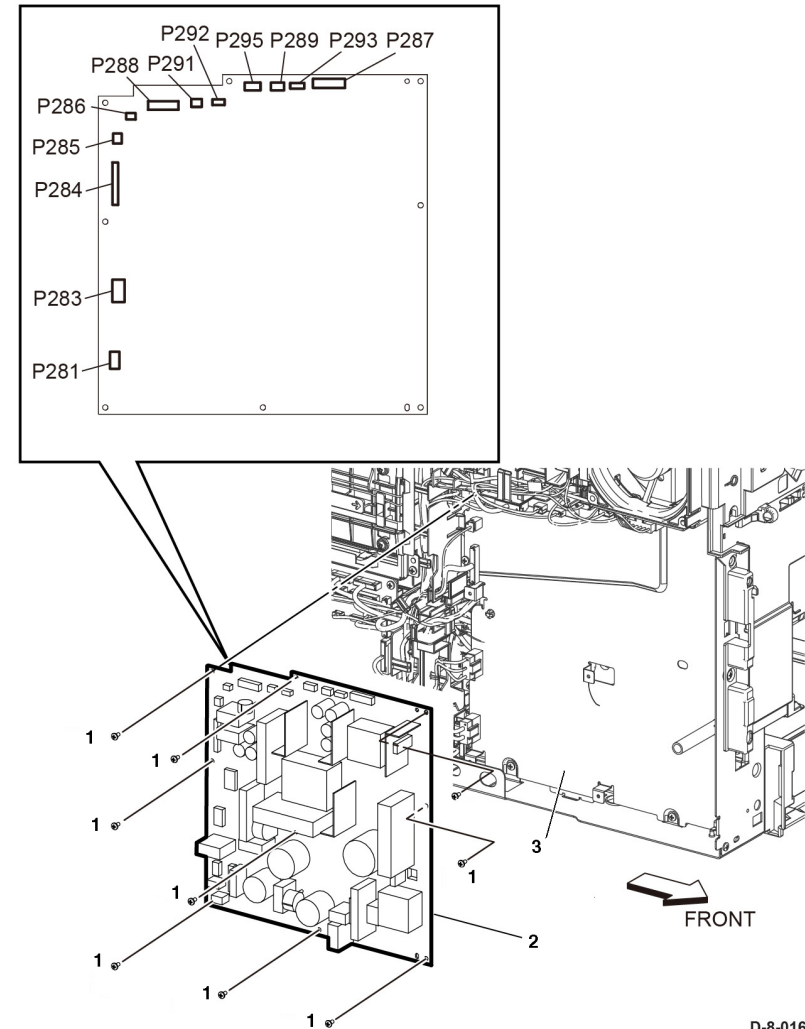

Figure 1 LVPS PWB removal
4. Remove the LVPS PWB, Figure 1:
- b. Remove eight screws (1) attaching the LVPS PWB (2) to the LVPS plate (3) then remove the LVPS PWB.